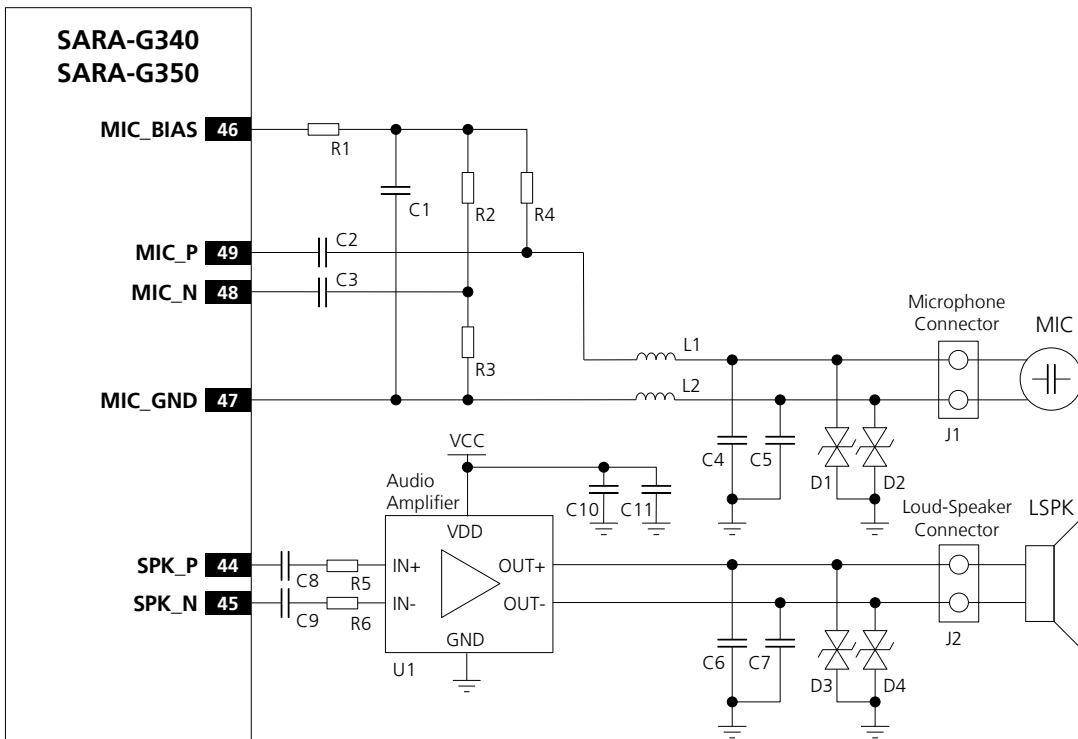

Figure 76: Analog audio interface hands-free mode application circuit
Figure 76 shows an application circuit for the analog audio interface in hands-free mode, connecting a 2.2 k $\Omega$  electret microphone and an 8  $\Omega$  or 4  $\Omega$  loudspeaker:
As in the example circuit in Figure 76, follow the general guidelines for the design of an analog audio circuit for hands-free mode:
- Provide a proper series capacitor at both **MIC\_P** and **MIC\_N** analog uplink inputs for DC blocking ( $C2$  and  $C3$  100 nF Murata GRM155R71C104K capacitors in Figure 76). This provides a high-pass filter for the microphone DC bias with proper cut-off frequency according to the value of the resistors of the microphone supply circuit. Then connect the signal lines to the microphone.
- Mount an 82 nH series inductor with a Self Resonance Frequency ~1 GHz (e.g. the Murata LQG15HS82NJ02) on each microphone line ( $L1$  and  $L2$  inductors in Figure 76).
- Mount a 27 pF bypass capacitor (e.g. Murata GRM1555C1H270J) from each microphone line to solid ground plane ( $C4$  and  $C5$  capacitors in Figure 76).
- Provide a 47 nF series capacitor at both **SPK\_P** and **SPK\_N** analog downlink outputs for DC blocking ( $C8$  and  $C9$  Murata GRM155R71C473K capacitors in Figure 76). Then connect the lines to the differential input of a proper external audio amplifier, differential output which must be connected to the 8  $\Omega$  or 4  $\Omega$  loudspeaker. (See the Analog Devices SSM2305CPZ filter-less mono 2.8 W class-D Audio Amplifier in the circuit described in Figure 76.)
- Mount a 27 pF bypass capacitor (e.g. Murata GRM1555C1H270J) from each loudspeaker line to solid ground plane ( $C6$  and  $C7$  capacitors in Figure 76).
- Provide additional ESD protection (e.g. Bourns CG0402MLE-18G varistor) if the analog audio lines will be externally accessible on the application device, according to the EMC/ESD requirements of the custom application. The protection should be mounted close to an accessible point of the line ( $D1-D4$  parts in the circuit described in Figure 76).